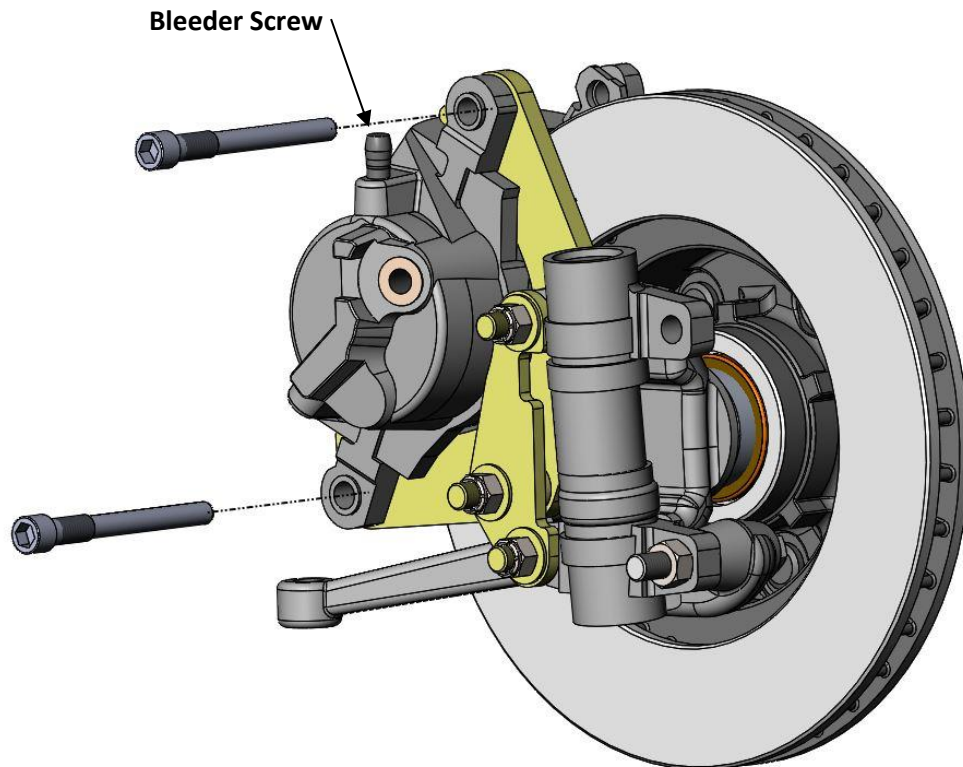

Figure 8 – Caliper Bolt Installation (Driver Side Shown)
13. Mount the caliper to the caliper mounting bracket. With the pads installed in the caliper, slide the caliper over the rotor and line up the mounting ears of the caliper with the holes in the caliper mounting bracket. Tighten and torque the bolts to 45 ft/lbs. **NOTE:** When installing the calipers, make sure the brake bleeders are pointing upward. See Figure 8 below for reference.